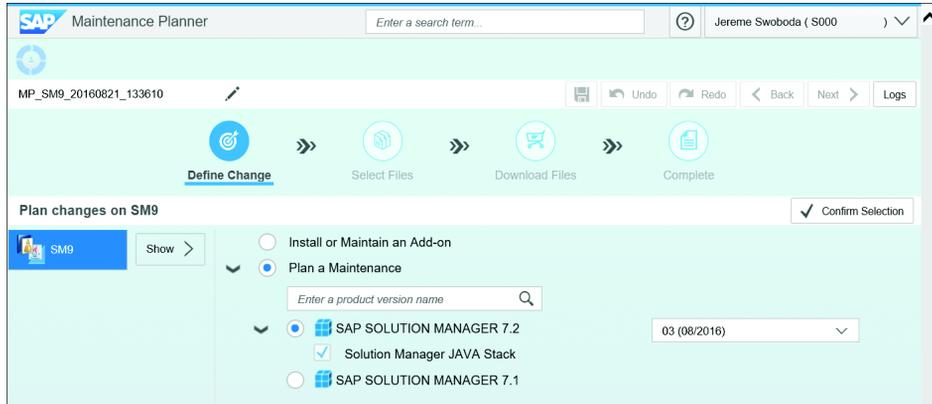

Figure 32 Application Upgrade/Install Selection Screen
1. Define the change to be made (see Figure 32). We are upgrading the system, so select PLAN A MAINTENANCE. Then, select SAP SOLUTION MANAGER 7.2. Select SP 03 to install. Click CONFIRM SELECTION. You will be prompted to wait as the files required for the upgrade are being calculated.